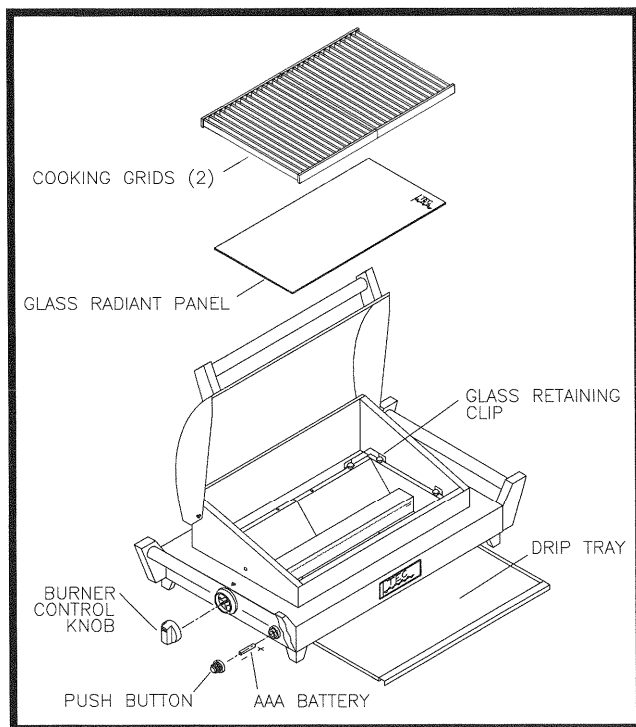

Figure 1 TEC G-Sport FR Components
2. Set the Cooking Grids in place with the closed side of the channels facing up, on top of the Radiant Glass Panel. (See Figure 1)
1. Remove the Burner Control Knob from the packaging material. (See Figure 1)
1. Install the battery, + end first. (See Figure 1)
2. Thread the Push Button Spark Igniter Knob onto the Spark Igniter Bezel as shown. (See Figure 1)